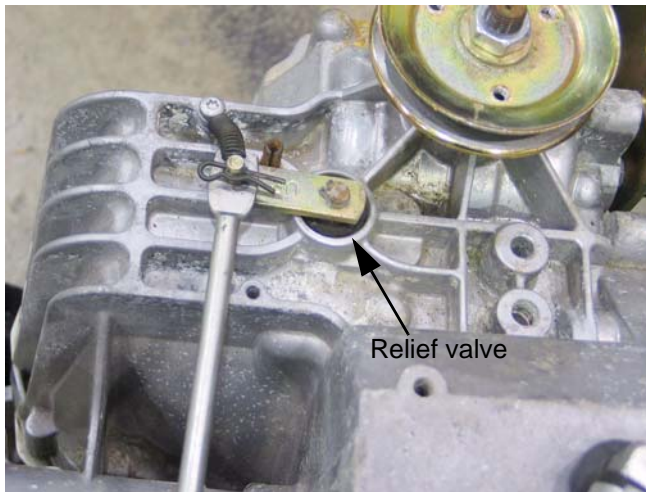

Figure 34.16
34.16. Disconnect the hydro relief rod from the relief valve by removing the hairpin clip. Lift the rod off of the arm that controls the valve, and remove the rod from the tractor. See Figure 34.16.